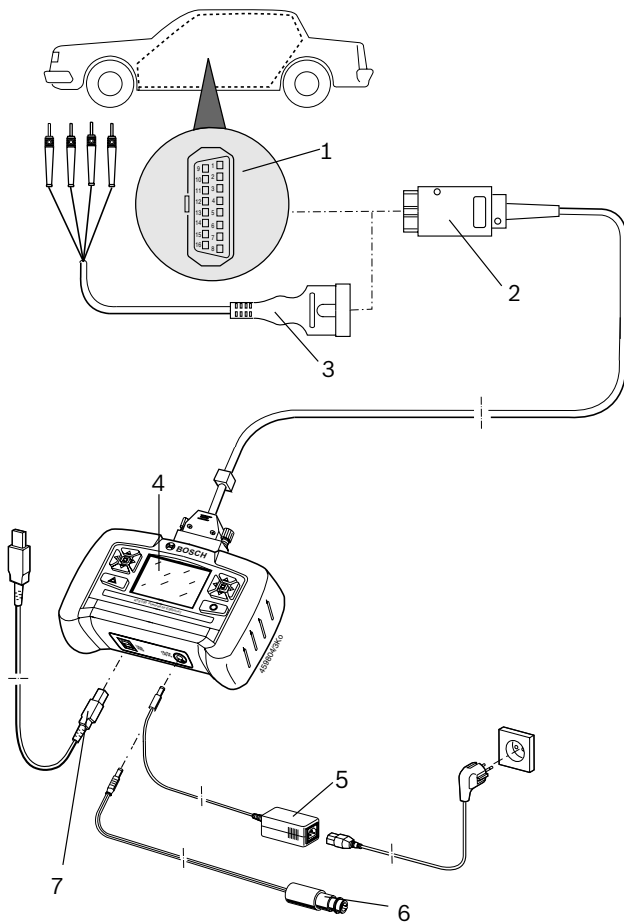

Fig. 3: KTS 200 connection schematic
- the OBD diagnostic lead (Fig. 3, item 2) or
- the OBD diagnostic lead and also the UNI connecting lead (Fig. 3, item 3; special accessory) or